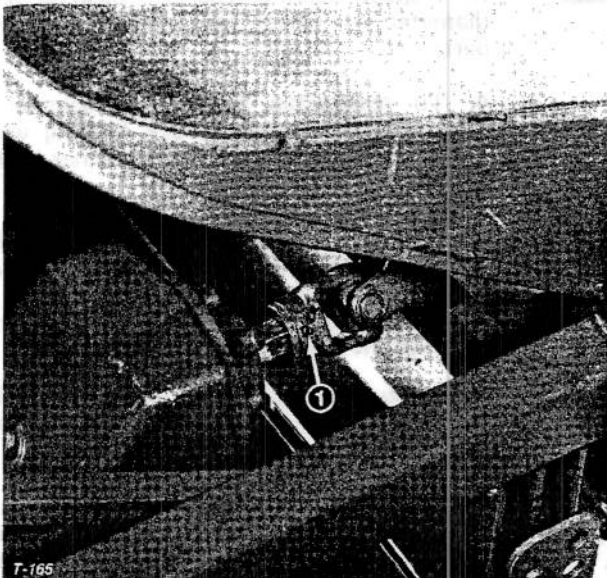

Figure 91
3. Lower cutting unit, remove pins from height-of-cut brackets (4).
4. Drive roll pin out of yoke and input shaft of gear box (Fig. 91). Slide yoke off the input shaft. If traction unit will be used without the cutting unit, remove the PTO shaft from the traction unit; refer to PTO Shaft Removal, page 43.